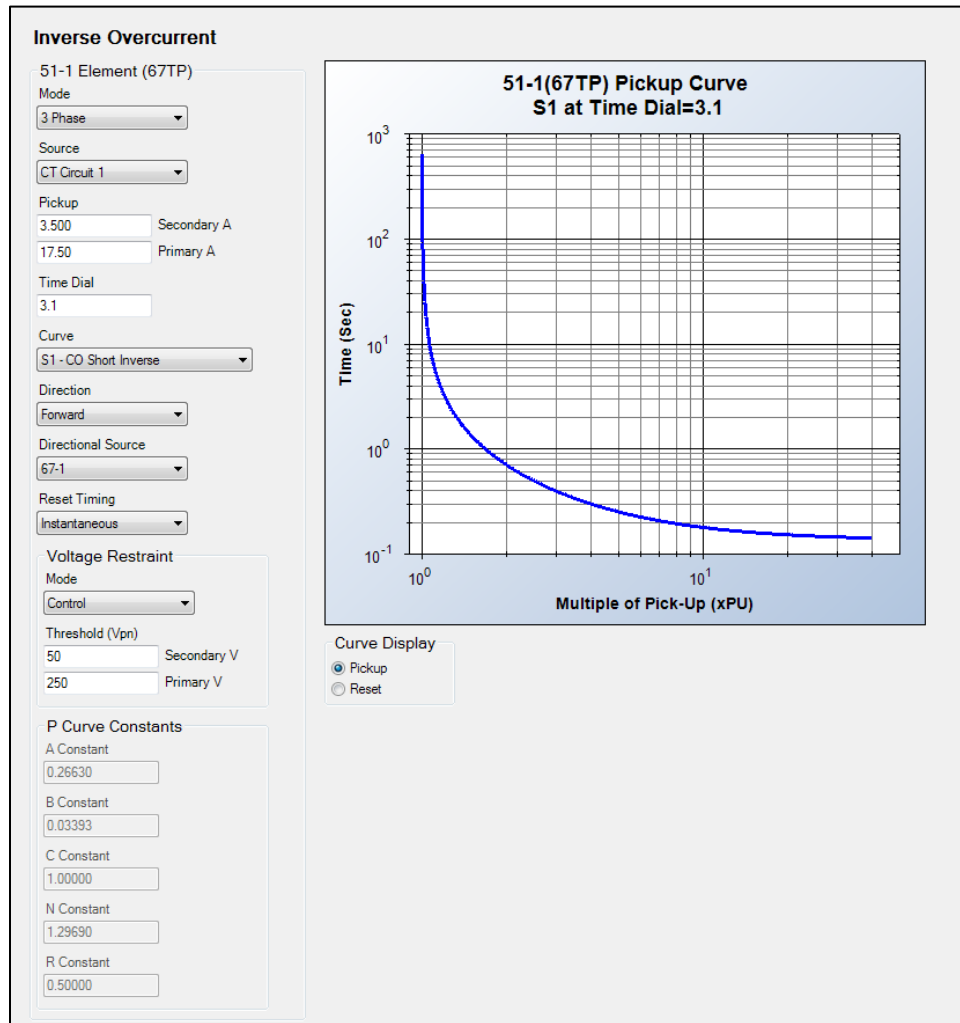

Figure 17-4. Inverse Overcurrent Settings Screen
Inverse overcurrent element operational settings are configured on the Inverse Overcurrent (51) settings screen (Figure 17-4) in BESTCOMSPPlus.